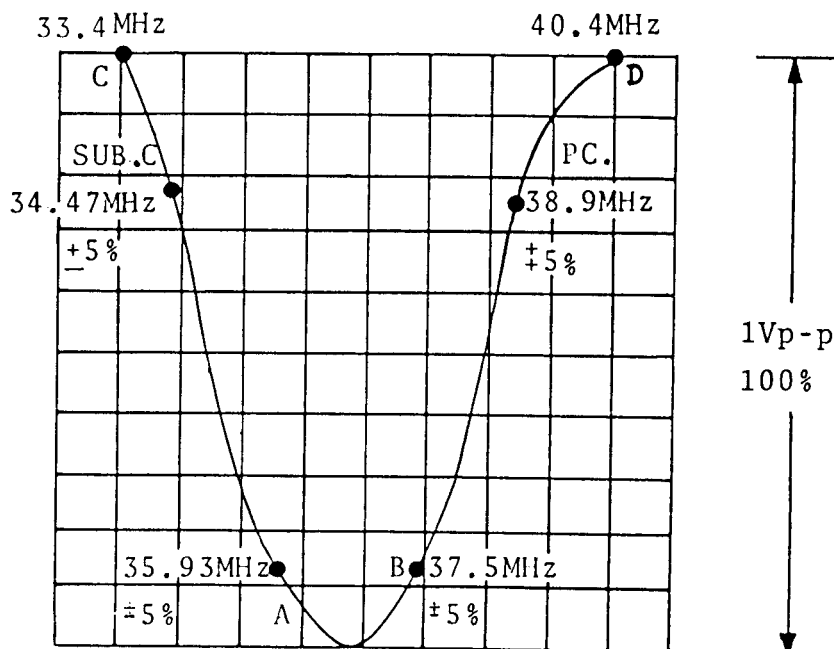

FIG.4
5. Adjust core of T101 (C, D, E, F core) and tuner converter coil to obtain the waveform as in Fig.4.